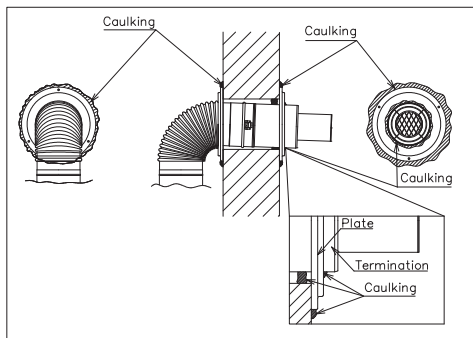

Fig 4 Seal between CVT-S, CWF-F and wall
5. Seal between the plate of CWF-F and the inner wall. Seal between air intake of CVT-S (termination) and the exterior wall. (See Fig4)
9. Attach FP-5-OUT on the outer wall with 3 appropriate screws. Make the label "UP" on the FP-5-OUT upward. Seal between FP-5-OUT and outer wall. (See Fig 4)